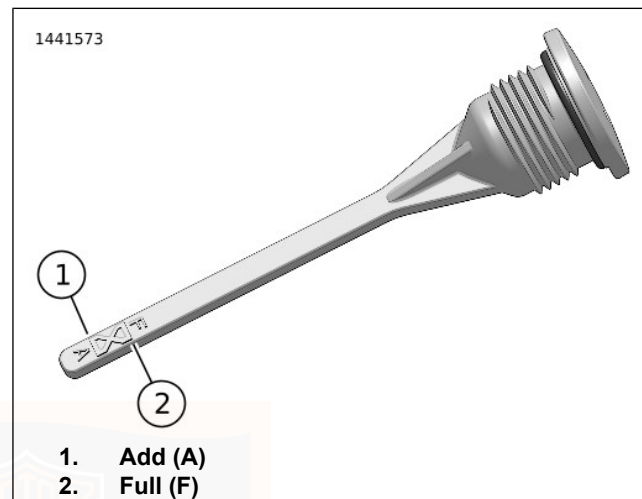

Figure 57. Transmission Lubricant Level
5. See Figure 57. Remove filler plug/dipstick. Check lubricant level on dipstick. Proper oil level is between the Add (A) (1) and Full (F) (2) marks.
6. Check lubricant level. Add enough lubricant to bring the level between the add (A) and full (F) marks. See Figure 57.